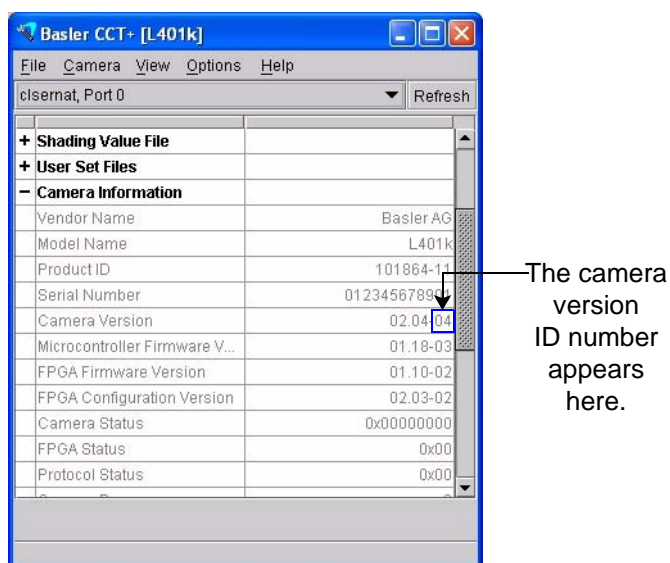

Figure 1-1: CCT+ Window (Example: L401k)
3. Find the parameter called "Camera Version." As shown in Figure 1-1, the last two numbers of this parameter are the camera version ID number.